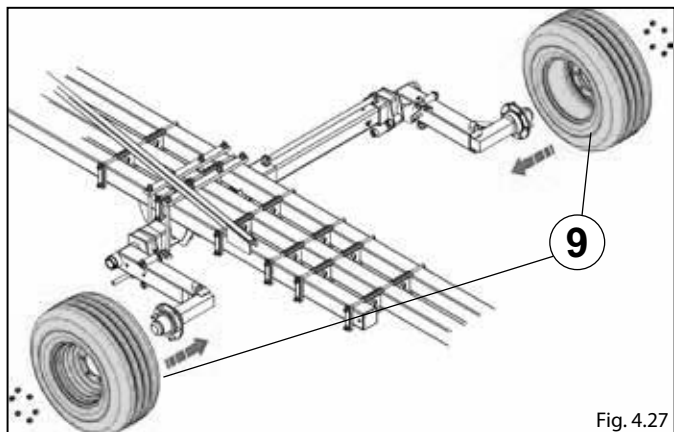

Fig. 4.27
- Mount the wheels **9** (Fig.4.27).